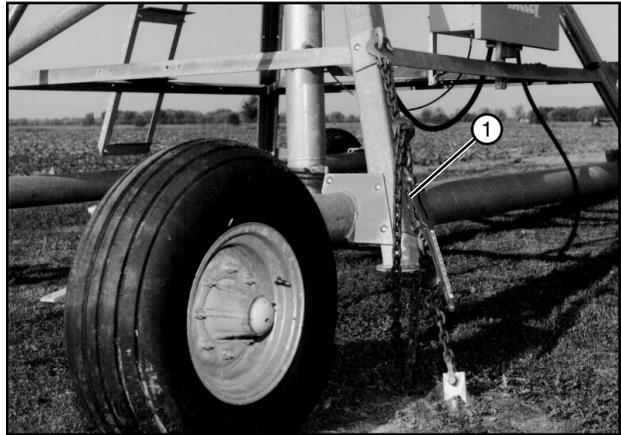

Figure 54-2 1. Load Binder
9. Remove the load binders at each corner of the pivot. See Figure 54-2.